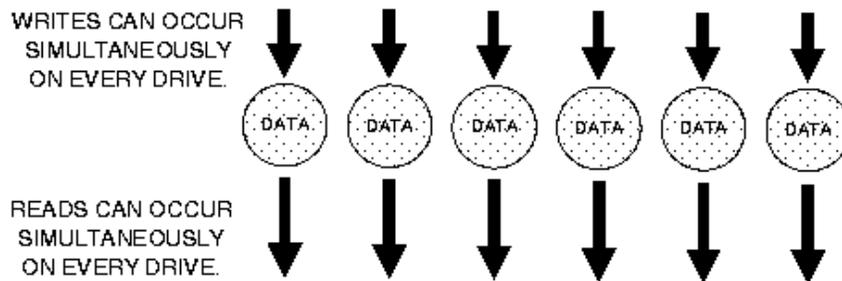

Figure 42. Non-redundant Striped Array
**RAID-0** is typically defined as a non-redundant group of striped disk drives without parity. RAID-0 arrays may be configured with large stripes for multi-user environments or small stripes for single-user systems which access long sequential records. If one drive in a RAID-0 array fails, the entire array fails. However, RAID-0 arrays deliver the best performance and data storage efficiency of any array type, Figure 42.